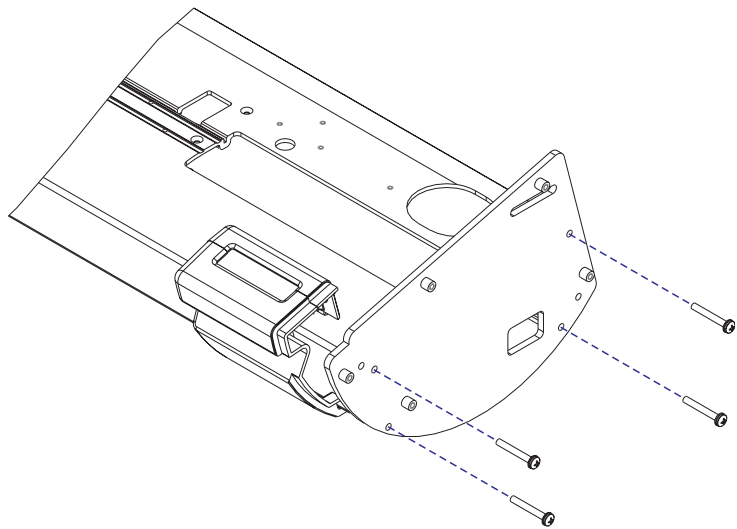

Figure 5-3. Removal of the Right Side Plate.
4. While holding the Right Side Plate, remove the screws securing the side plate to the Platen. See Figure 5-3.